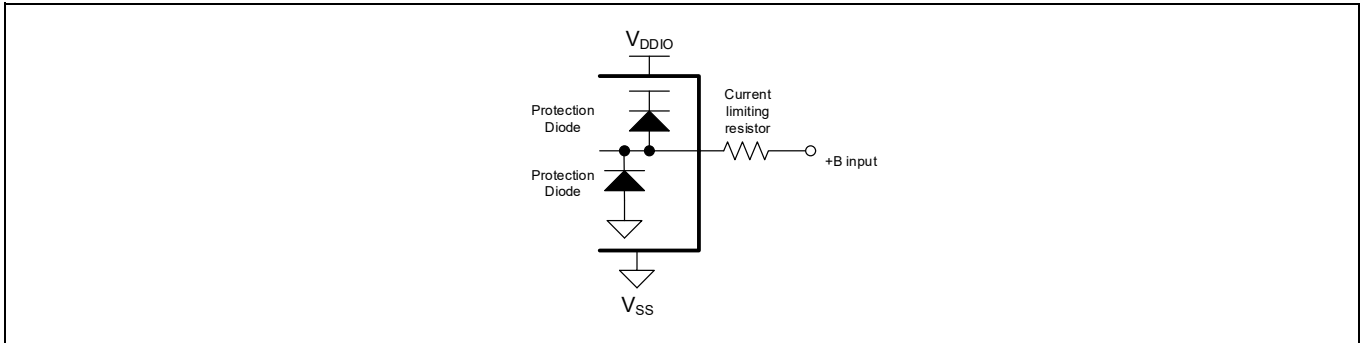

Figure 26-1 Example of a recommended circuit^[53]
- 41.A current-limiting resistor must be provided such that the current at the I/O pin does not exceed rated values at any time, including during power transients. Refer to Figure 26-1 for more information on the recommended circuit.